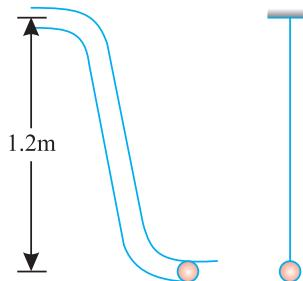

Fig. 27.8.
2. A 1 kg ball traverses a frictionless tube as shown in Fig. 27.8.